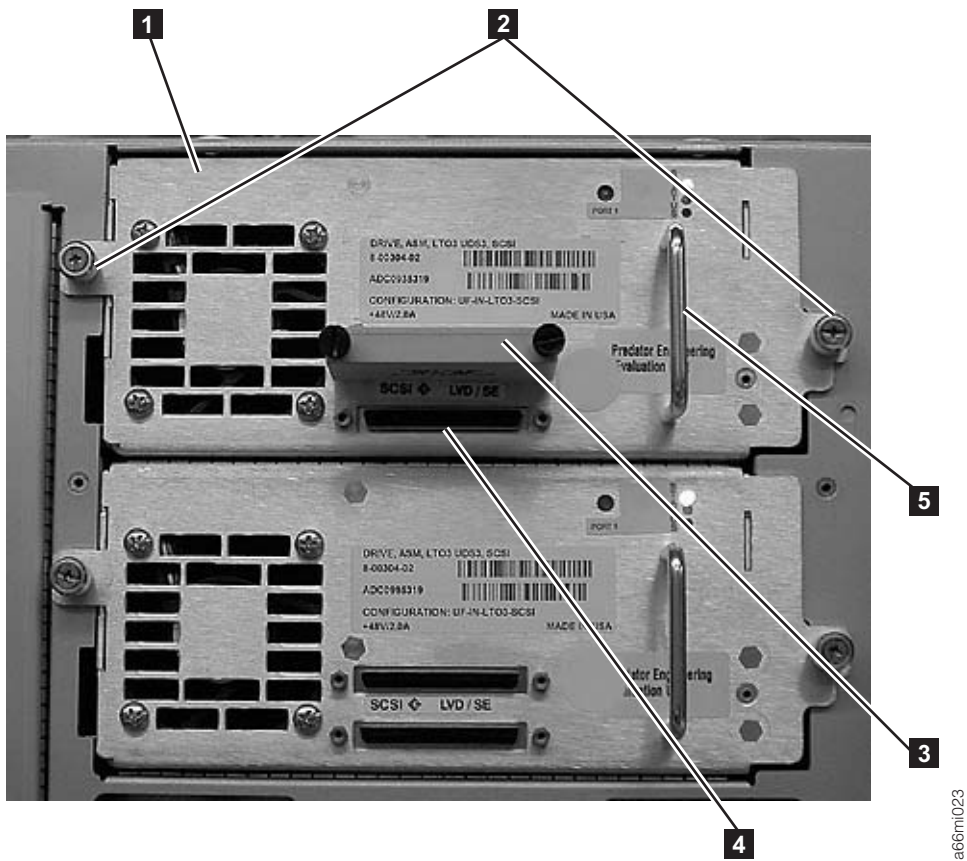

Figure 4-33. Tape Drive (detail)
2. Grasp the handle (**5** in Figure 4-33) and slowly slide the drive sled into the drive slot, while supporting the drive sled from underneath.
3. Tighten the two thumb screws (**2** in Figure 4-33) that hold the drive sled in place by turning them clockwise.